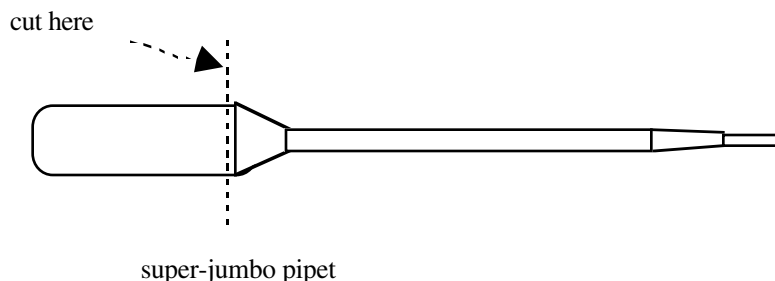

Figure 2 Where to cut a super jumbo pipet.
1. Cut off the bulb section of a super-jumbo pipet just after the stem widens to the size of the bulb (*Figure 2*).